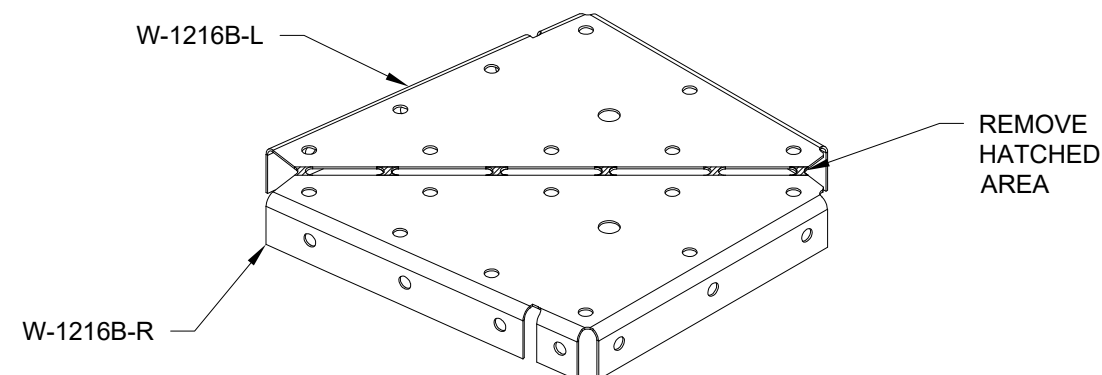

FIGURE 3: SEPARATING HINGE RIBS
Step 8: Cut apart the two W-1216B Hinge Ribs into W-1216B-L and W-1216B-R Hinge Ribs as shown in Figure 3.